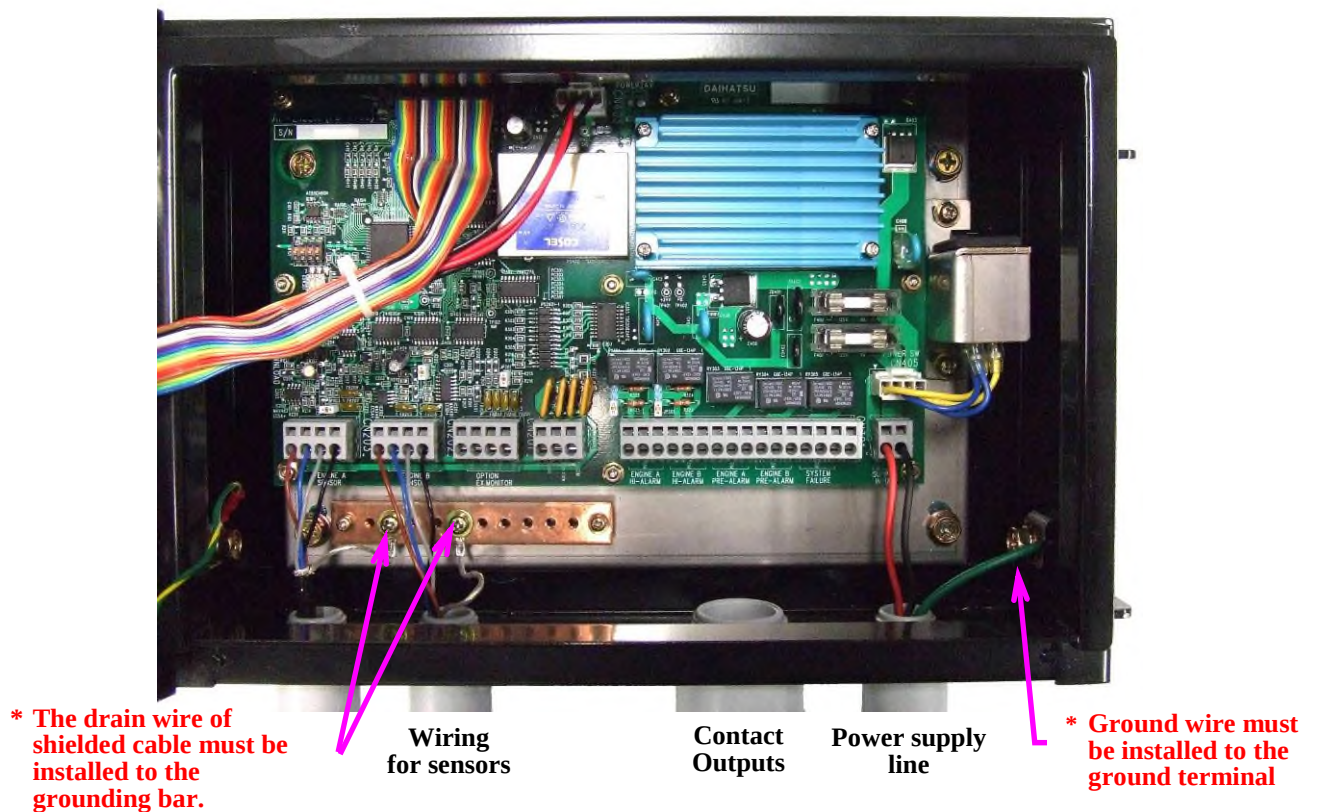

Fig. 26 Schematic drawing of the controller external wiring connections (for two engines)
- (1) Loose screw fastening the slide cover and slide the slide cover to reveal the terminal block.
- (2) Wiring connection refer to Figure 26 [SENSOR TERMINAL BLOCK LAYOUT].
- (3) Set the termination and node settings to the sensors necessarily after wiring work was over.